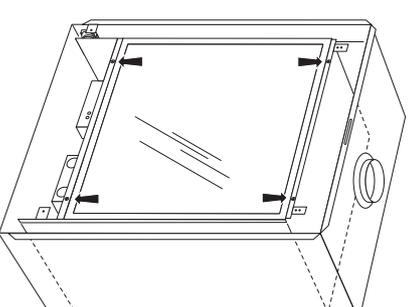

fig. 5
3. Remove the glass by disassembling the securing frame (unfasten the two screws on the bottom of the frame and remove the two screws on top of the frame) (see fig. 5).